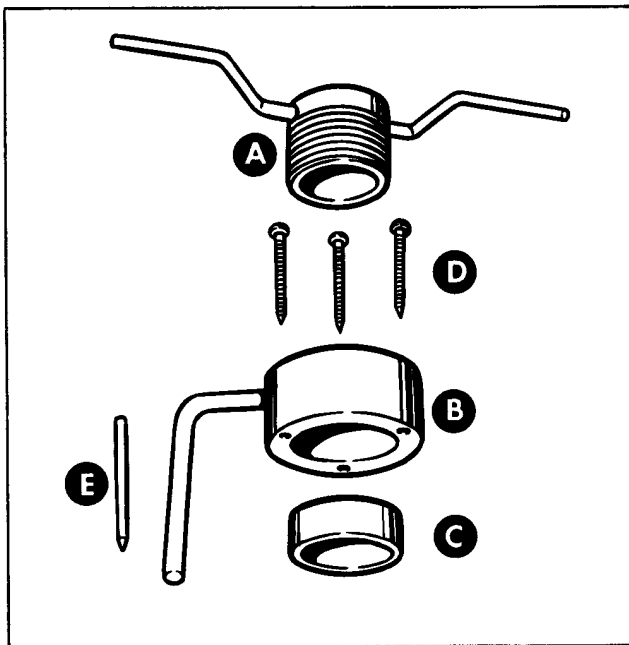
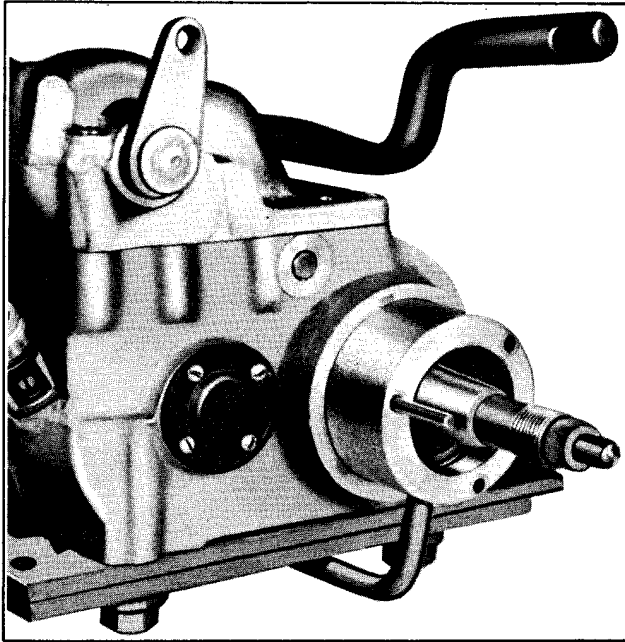

Figure 4-7. Main Drive Gear Oil Seal Tool
Figure 4-8. Centerpunching Screw Hole Locations
**MAIN DRIVE GEAR OIL SEAL TOOL.** Main Drive Gear Oil Seal Tool, Part No. 95660-42, (See Figure 4-28) (Figure 4-7) enables removing worn or damaged oil seal and installing new seal without removing or disassembling transmission. It may be used on transmission removed from chassis as well. To use, transmission must be assembled with the exception of clutch and countershaft sprocket.
Place sleeve (C, Figure 4-7) on end of main drive gear. Note: Electra-Glide requires 15/16 inch long Sleeve, Part No. 95666-42A. Slide body (B) over sleeve with body stop rod downward. Turn body clockwise until stop bears against transmission case or mounting plate. Hold body in this position and insert center punch (E) through each of the three holes in body and center punch oil seal as shown in Figure 4-8.
Insert sleeve (C, Figure 4-7) into oil seal. Place sleeve and seal on main drive gear with lip side of seal toward transmission case. Turn seal so it will not stake at same points old seal was staked.